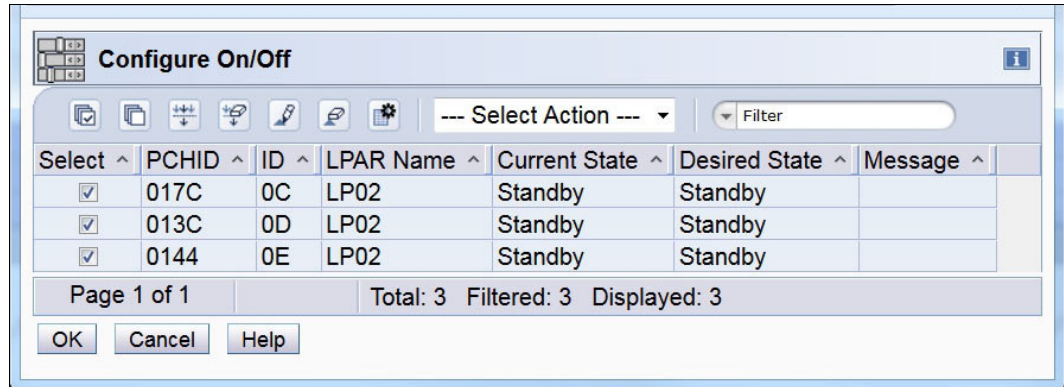

Figure 10-23 SE Config On/Off (all selected)
- Select the cryptographic coprocessor channel numbers that you want, and then click **Select Action** → **Toggle** to switch from Standby to On1ine (Figure 10-23). If you want multiple cryptographic channels at the same time, select **Toggle All On**.